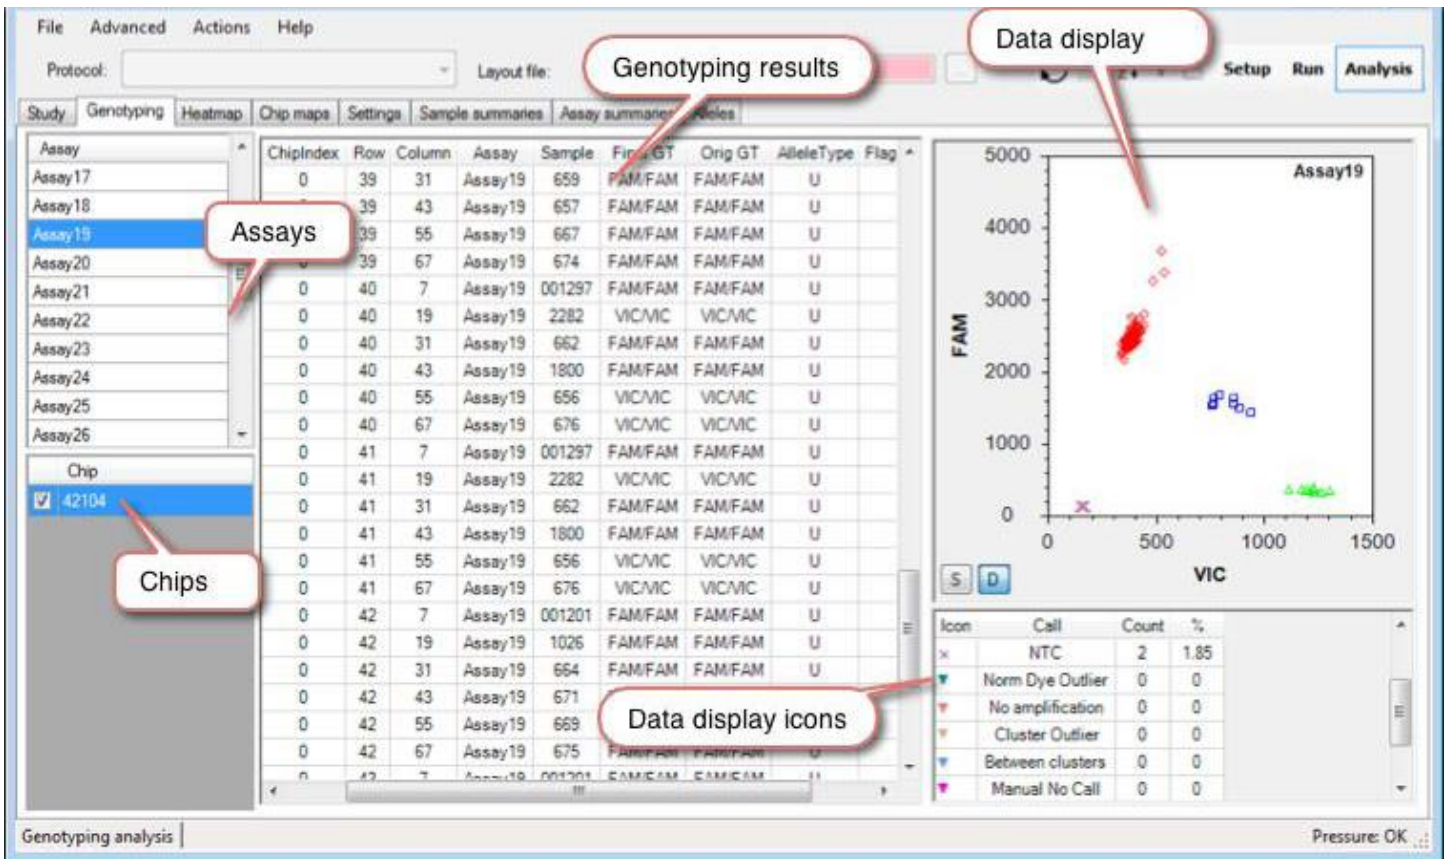

Figure 78. Example of Genotyping Results in the Genotyping tab.
- **Genotyping Results** is a tabular list of all genotyping results for the selected chips and assays. See the genotyping results chart below (Figure 78).